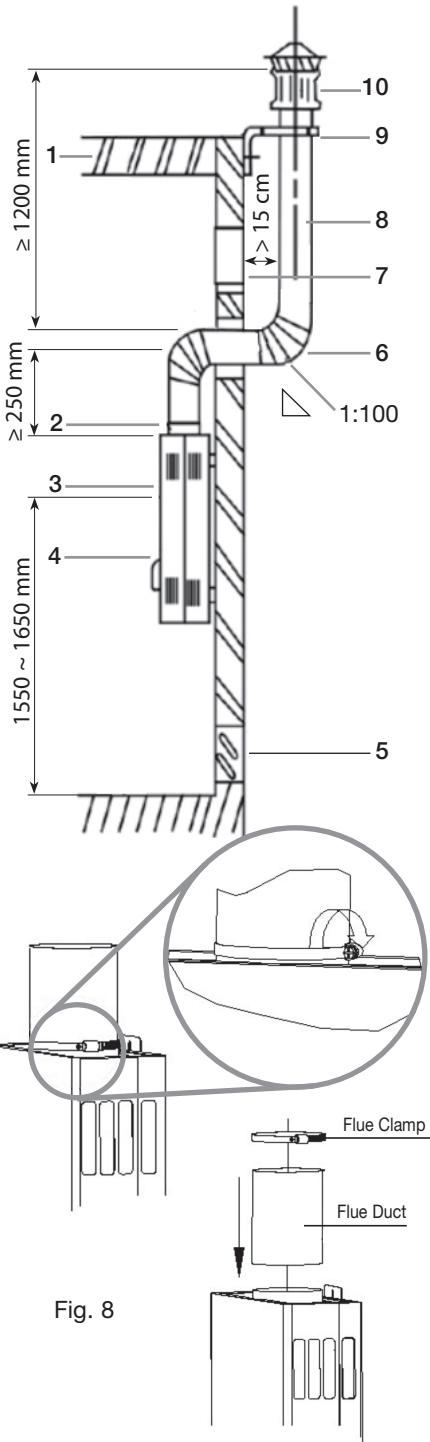

Fig. 8
In poorly ventilated areas, it is recommended to install an exhaust duct so combustion gases are exhausted (Fig. 8).
- The horizontal portion of the exhaust duct must have an inclination smaller than 1:100, and must have a 10 mm hole at the bottom of the duct vertical portion, outside the room, to drain raindrops (Fig 8.)
- After initial installation, or after replacing a gas cylinder, air may go into gas piping. It may take several attempts to purge the air out of the gas piping before the water heater turns on. In the event of a problem after normal operation, immediately close the water valve, wait 10 to 20 seconds and try to open it again to prevent incomplete or intermittent combustion from taking place (Fig.8).